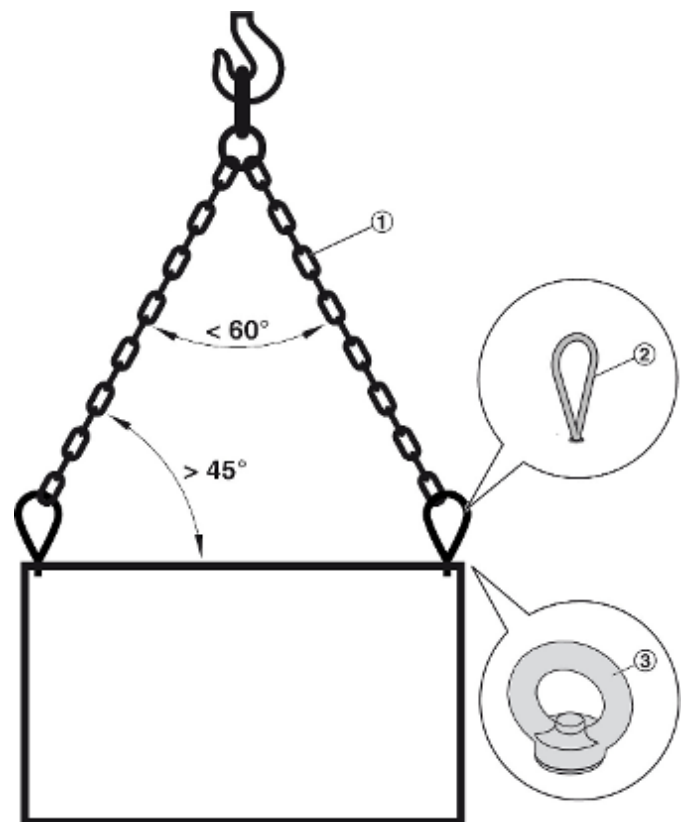

Fig. 13: Using lifting eyes for moving units with a crane
Insert all lifting eyes (Fig. 13 /2) into the threaded holes.
2. ▶ Hook the slings (Fig. 13 /1) into the lifting eyes or eye nuts.